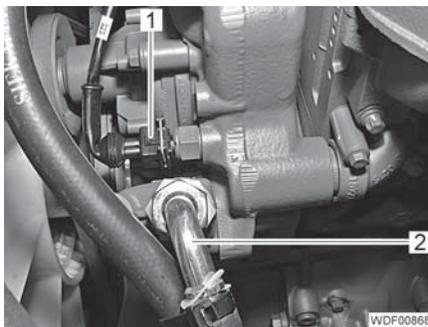

Fig. 8 Connections on right-hand side
- Release the connector (Fig. 8,1) and disconnect it from the temperature sensor.
- Unscrew and close off the heating line (Fig. 8,2).